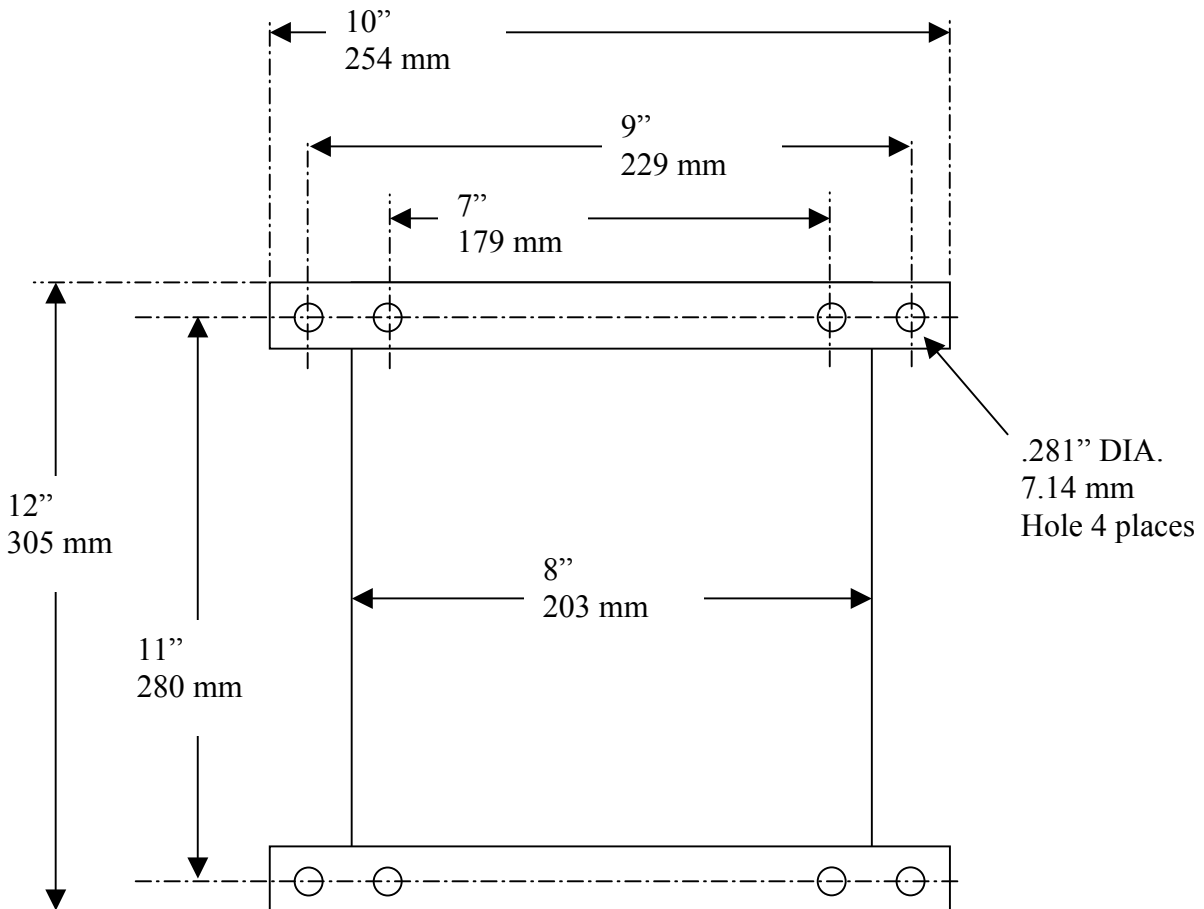

Figure 4-2. Receiver Mounting Details
a mounting template are shown on page 29 Figure 4-2.
2. Position the receiver. Locate as far as possible from exposed trolley wire and sources of electromagnetic or radiated noise. Cabinet mounting dimensions and mounting template is on page 29 Figure 4-2. Antenna at top of unit should be kept as clear as possible of any metal object.